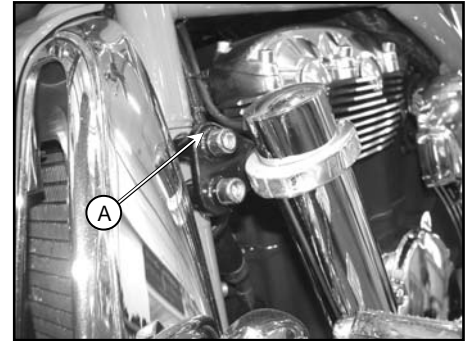

Figure 1
A steel shift cylinder support bracket (A in figure 1) with half of the Pingel shift cylinder clamp is mounted to the frame. Remove the clamp from this assembly so the steel support bracket can be painted; note the order of assembly and do not lose any parts especially the thin shim. Use a pencil to trace an outline of the large washer on each side of the bracket. Mask this area before painting. Failure to mask this area may result in improper shifter operation. Remove the clamp from this assembly so the steel support bracket can be painted. Do not remove any of the grease from the bushings; it is required for smooth operation. After painting, reinstall the clamp half using the supplied thread locker (make certain it is installed exactly as it was prior to removal). The support bracket mounts where the left side lower and upper frames connect. Remove the stock bolts and install the steel shift cylinder support bracket using the two 10mm x 75mm stainless socket head cap screws supplied, as shown in Figure 1.
Install the electric shift cylinder onto the shift cylinder support bracket using the Pingel clamp and (2) 1/4-20 x 3/4" socket head cap screws as shown if Figure 1. Tighten these bolts for now, but adjustment will be needed later. The rod end on the shift cylinder should be able to go past the point of mounting in each direction sideways. The point of mounting is that flat surface upon which the rod end bolts to the shift lever bracket allowing for the thin flat 1/4" washer(s), if needed (four are supplied, use as many as required to achieve proper alignment). It is imperative that there is no side pressure or tension on the electric shift cylinder shaft when it meets its flat surface upon the Pingel shift peg bracket when it is bolted as this would take away valuable power from the electric shift cylinder resulting in binding and missed shifts. If the rod end does not line up correctly, you can either add another thin 1/4" flat washer to the existing washers to move the rod end away from the shift peg bracket, or remove one or more of the thin flat 1/4" washers to move the rod end closer to the shift peg bracket. Install the 1/4-28 x 1" button head socket cap screw through the Pingel shift lever bracket, the 1/4" washer(s) and through the rod end of the electric shift cylinder, install the locknut on the backside and tighten, see Figure 3.